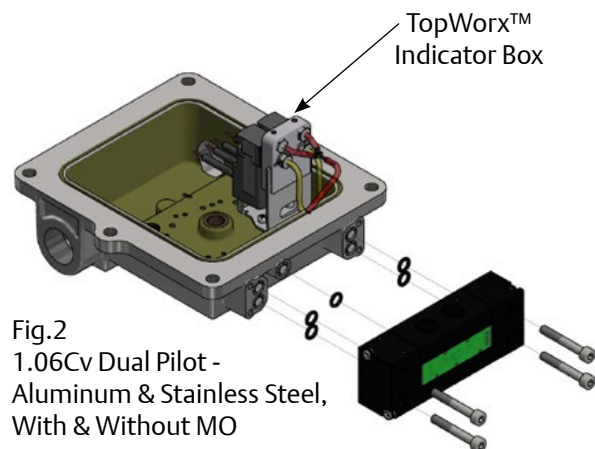

Fig.2
- Spool Valve is mounted on the Interface Plate Assembly. Three screws are used to mount the Spring Return versions and 4 Screws to mount the Dual Pilot versions as shown in figure 2 (a) & 2 (b).